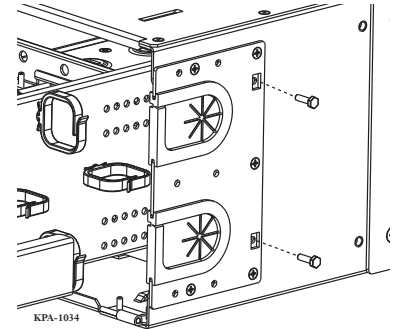

Figure 3 — Install Hex-head Bolts into Current Version of Housing
- Step 3:** If using the current version of the housing, insert the two hex-head bolts into the cable entry plate from outside the housing (Figure 3).